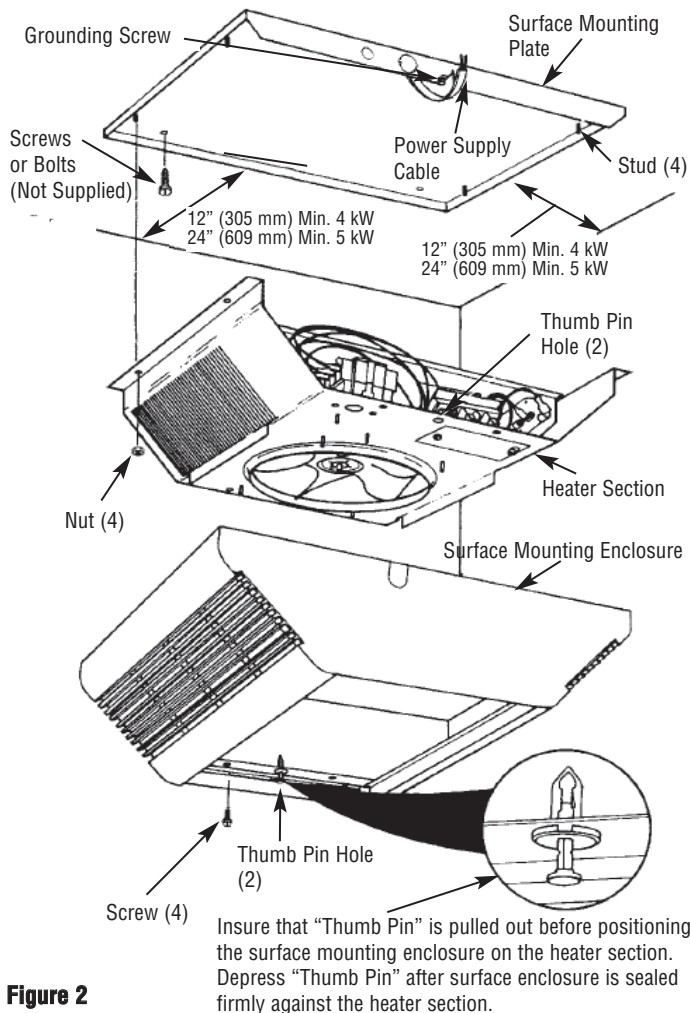

Figure 2
FAILURE TO INSTALL THE FOUR MOUNTING NUTS TO SECURE HEATER TO MOUNTING FRAME COULD RESULT IN THE HEATER FALLING (SEE FIGURE 2).
FAILURE TO INSTALL THE FOUR SCREWS COULD ALLOW THE SURFACE ENCLOSURE TO FALL (SEE FIGURE 2).
2. Remove Surface Mounted Heater assembly from carton. Heater assembly includes (1) surface mounting plate, (1) heater, (1) surface mount enclosure and (1) set of discharge grilles, Figure 2, page 3.
3. Remove Surface Mount Enclosure from assembly. Remove four (4) nuts from studs so heater can be removed from surface mounting plate. **Do not discard** nuts since these will be used in Step 11 to mount heater back on to surface plate.
7. Position the surface mounting plate against the ceiling and secure with bolts or screws (Figure 2). See Warning No. 9, page 1. Connect the ground wire to the green ground screw on the surface mounting plate.
10. Position the heater section over the studs on the surface mounting plate (Figure 2).
11. Push the heater section onto the studs and securely tighten four (4) nuts (removed from step 3) on the studs to secure the heater section to the surface mounting plate (Figure 2).
FAILURE TO INSTALL THE FOUR MOUNTING NUTS COULD RESULT IN THE HEATER FALLING (SEE FIGURE 2).
NOTE: Insure that the "thumb pin" in each end of the discharge grille opening is pulled outward to allow the body of the thumb pins to fit into the holes in the heater section (Figure 2).
FAILURE TO INSTALL THE FOUR SCREWS COULD ALLOW THE SURFACE WRAPPER TO FALL (SEE FIGURE 2).
14. Install and securely tighten four screws (supplied) to secure the surface mounting enclosure to the heater section (Figure 2).